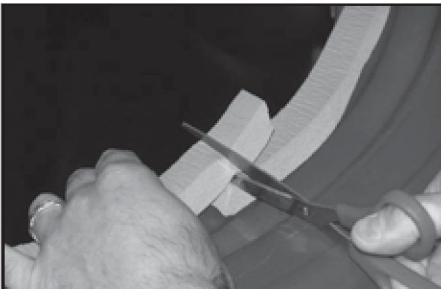

FIG.3 Trim Gasket
STEP 3 Trim gasket 1/4" too long. A properly trimmed gasket is then compressed end to end. Ensure that the gasket is uniformly positioned and makes good contact with the tank surface. (Fig.3)